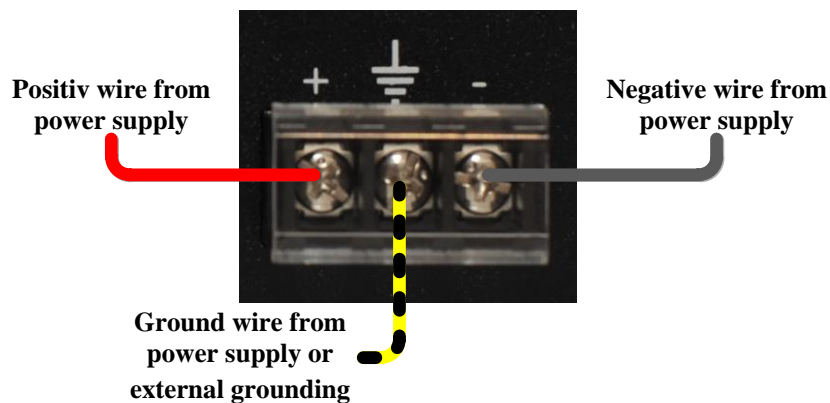

Figure 9: KY-FEXT-D power connector
7. Below is shown the power supply connector of the **KY-FEXT-D** unit. Connect the positive wire from the power supply to the “+” connector, connect the GND pin of connector to the ground wire and the negative wire to the “-“ connector, as seen in Figure 9.